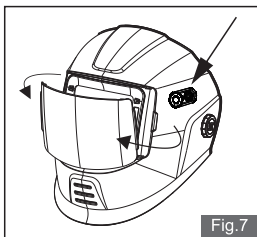
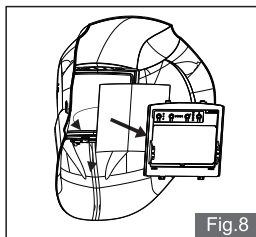
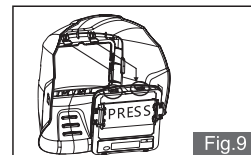

Fig.7
Fig.8
Fig.9
1.Remove the front protection plate and put the helmet face down, and press both taps in the top of the filter and push the ADF out(See Fig.8 & Fig.9).
1.If protection plates are in any way damaged, they must be immediately replaced (See Fig.7 & Fig.8).